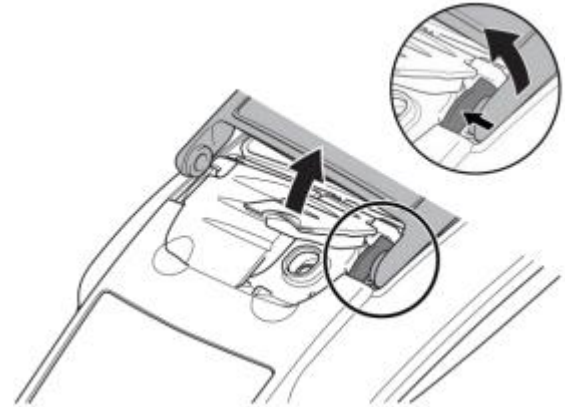

Fig. 4.7: Repeat then lift the battery pack away
5. Repeat on the other side to release the battery pack completely then lift the battery pack away (figure 4.7)